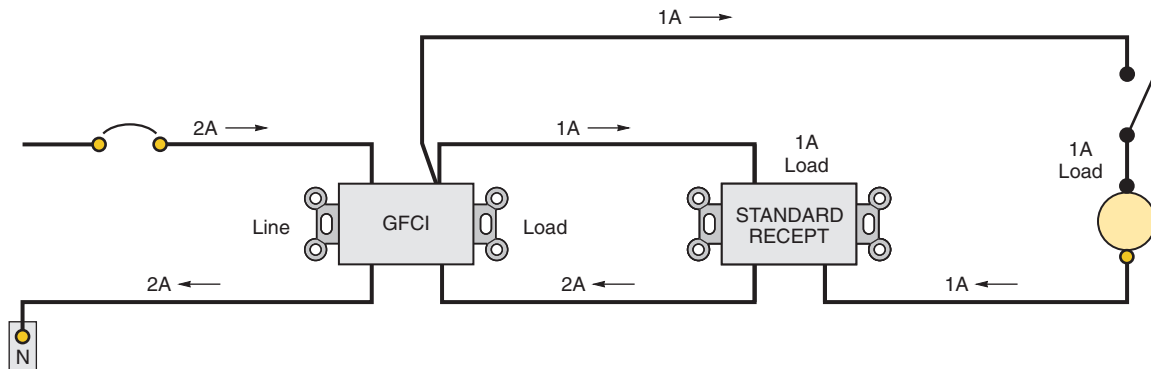

FIGURE 6-11 These diagrams show improper and proper connections of GFCI circuit breakers. (Delmar/Cengage Learning)
detects a current unbalance of 1 ampere and will trip “OFF.” As long as the unbalance exists, the GFCI receptacle will continue to trip “OFF” until the misconnection is corrected. Figure 6-11(C) illustrates the proper connection of a GFCI receptacle.